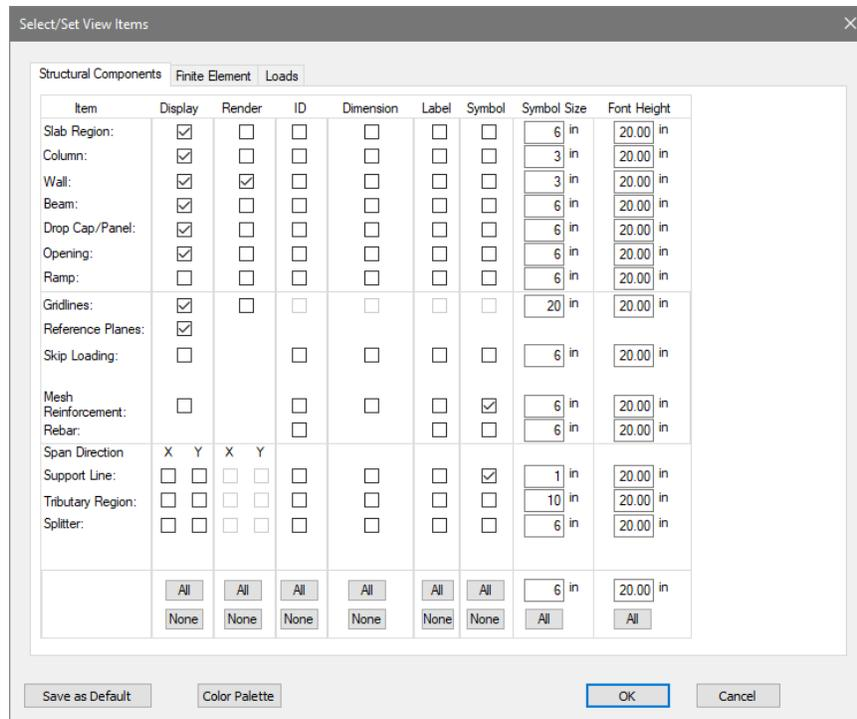

Figure 4-19
- On the *Structural Components* tab, make the selections as shown in **FIGURE 4-19**.
- Click on the *Zoom Extents* icon. The user should see the Level 4 floor plan modeled within Builder as shown in **FIGURE 4-19**.